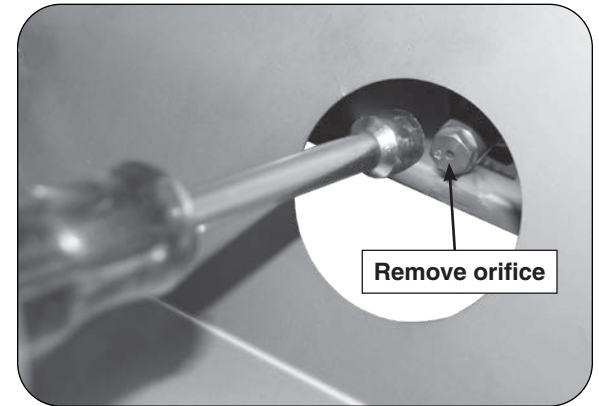

Fig. 35-2 Remove orifice to convert/check
4. Using a 3/8" socket, remove the orifice from the orifice holder (see Fig. 35-2 and Fig. 35-3) and check the number stamped on the face.